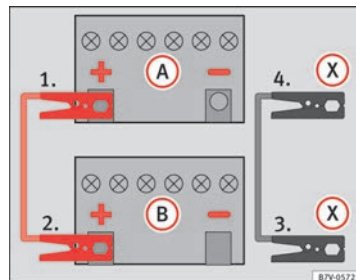

Fig. 219 Jump lead connection diagram when the assistance vehicle has a Start-Stop system: flat battery (A) and battery supplying current (B).
- For vehicles **with Start-Stop system**: Connect one end of the **black** (X) jump lead to a suitable ground connection, a solid piece of metal in the engine block, or to the engine block ⇒ fig. 219.
- Connect the other end of the **black** jump lead (X) to a solid metal component connected to the engine block, or onto the engine block itself of the vehicle with the flat battery however, connect it as far away as possible from the battery (A) ⇒ Δ.